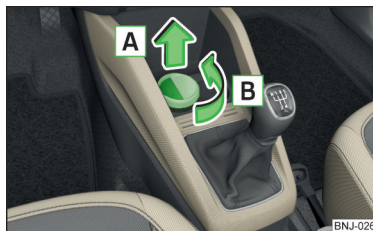

Fig. 72
- Remove the ashtray in the direction of the arrow **A** » Fig. 72.